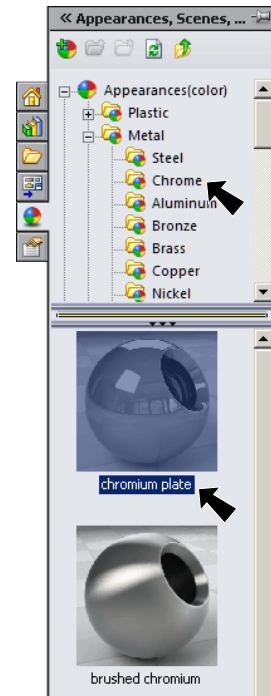

Fig. 13
Step 2. In the Appearances Task pane, expand **Metal**, click **Chrome** and in the lower pane select **chromium plate**, Fig. 13. Click OK  in the Property Manager.